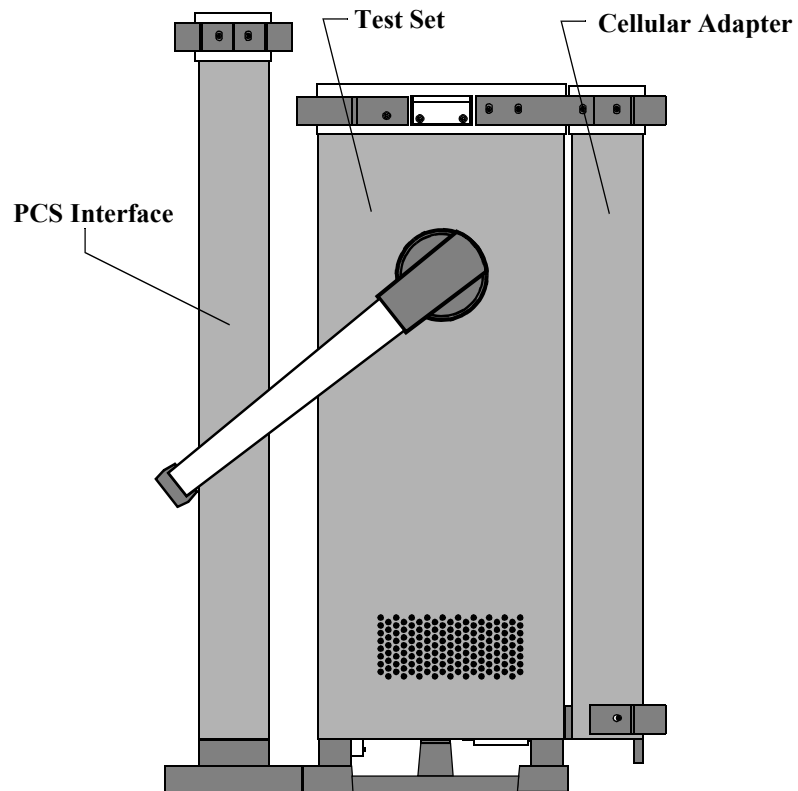

Figure 11
- b** If you are placing the Test System vertically (as is often done when putting the equipment on the floor), the PCS Interface's rear feet must be placed on the same surface as those of the Test Set. After placement, rotate the handle of the Test Set downwards to provide support for the PCS Interface. Refer to figure 11.